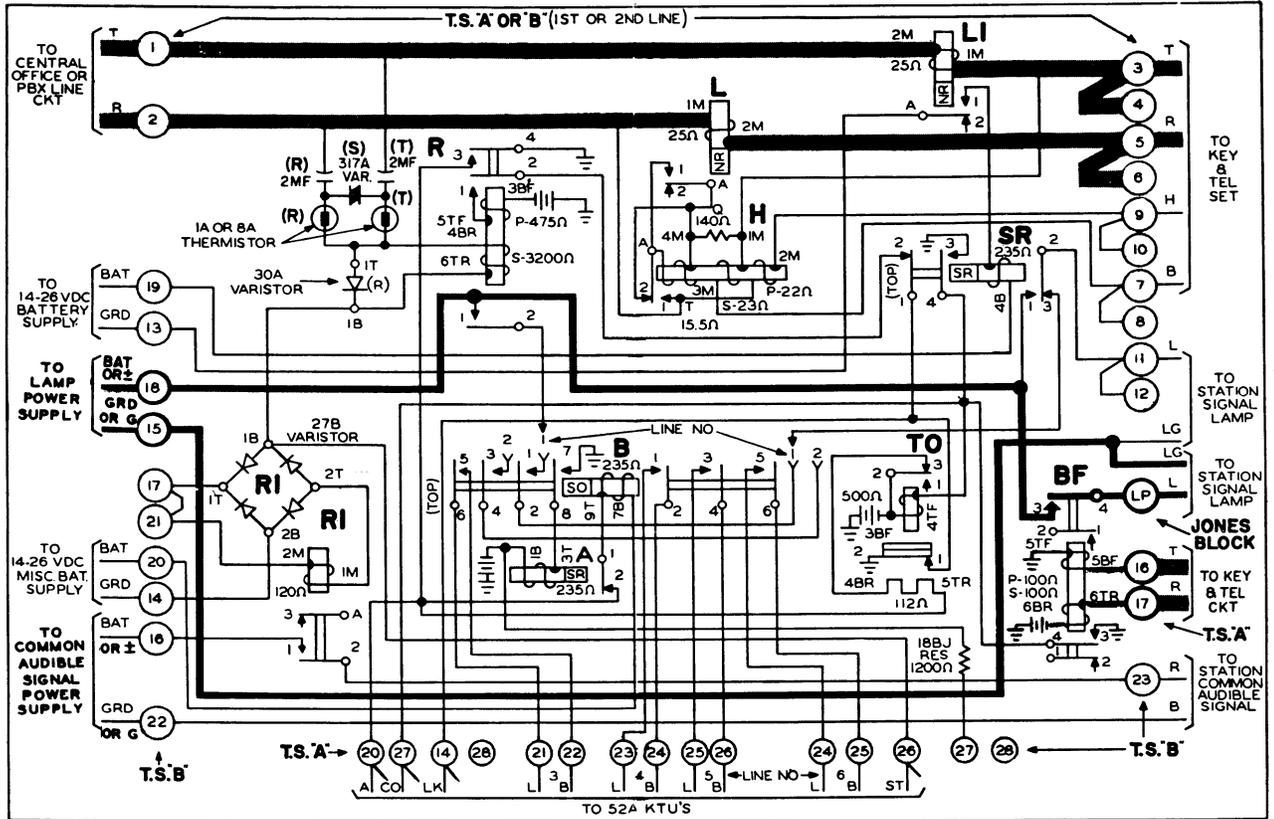

Fig. 4 Intercommunicating Line Circuit - 51AKTU
- (d) Fig. 4 Intercommunicating Line Circuit for 51A KTU.